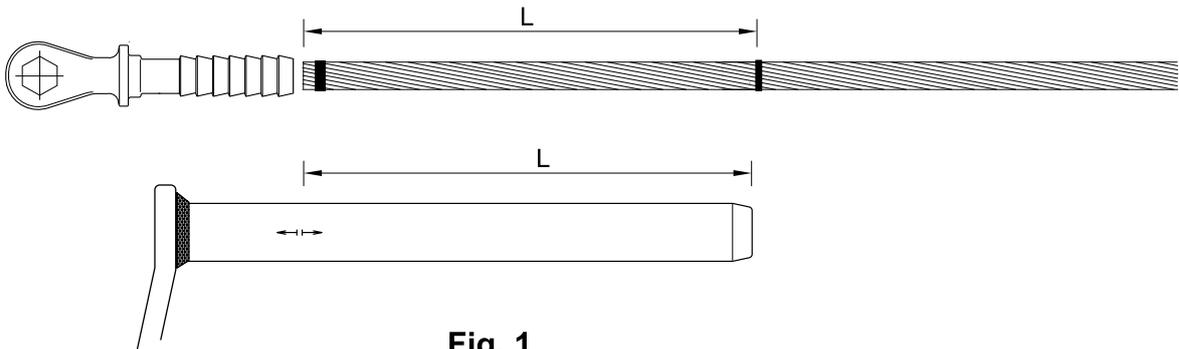

Fig. 1
- 2 Marcar con pintura sobre el conductor a una distancia L igual a la distancia que se va a comprimir (**Fig. 1**)
- 2 Use paint to make a reference mark a distance L on the conductor, equal to the distance that is going to be compressed (**Fig. 1**)